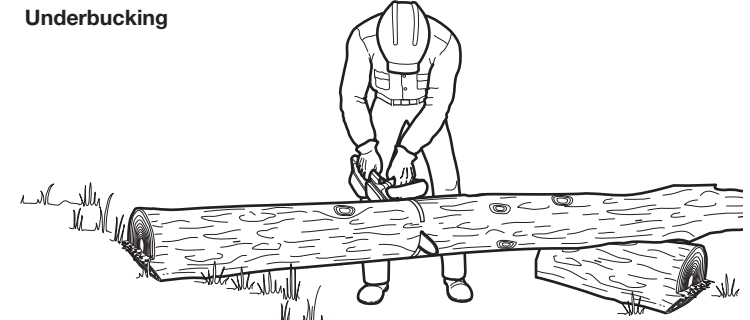

Fig. 20
1. Begin cutting from below, with the top of the saw chain against the bottom of the log (Fig. 20).